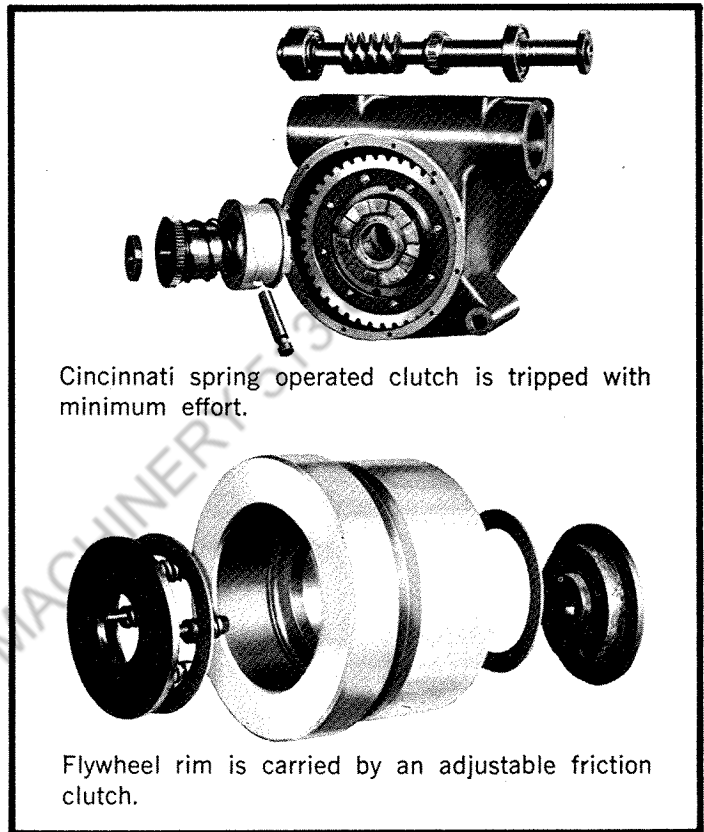

FIGURE 110
3. Mark the flywheel and the friction mounting with chalk to check for slippage. A single line on face of friction mounting and an adjacent mark on inside diameter of flywheel will provide reference points. Refer to Figure 110.
10. Remove the safety wires or cotter keys from nut No. 1. Refer to Figure 110.